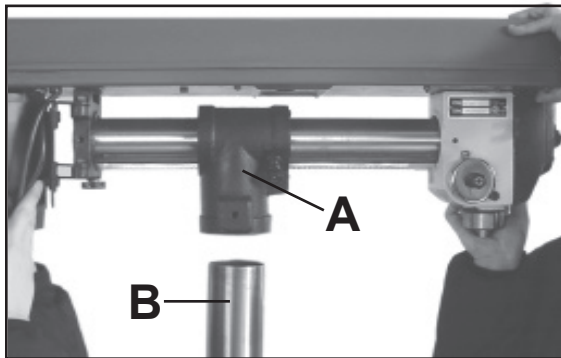

Figure 6
2. Place the drill press head (A-Fig. 6) onto the column (B-Fig. 6) as far as it will go.